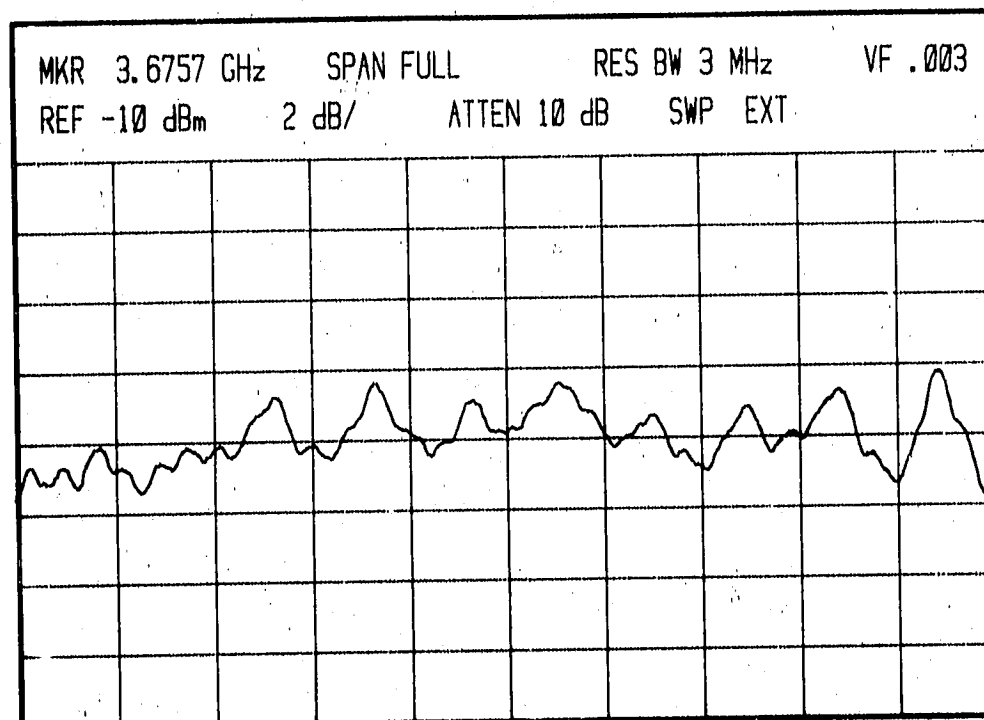

Figure 5-57. CRT Plot of Typical Frequency Response, 3.8 to 8.5 GHz
17. Center trace on center horizontal graticule line using REF LEVEL CAL screwdriver adjustment. Adjust A20R26 B3B for minimum slope of trace. Adjust A20R30 B3A counterclockwise so that right side of trace drops 2 dB. Readjust A20R26 B3B for minimum slope (see Figure 5-57). Using REF LEVEL CAL and REFERENCE LEVEL FINE, set best line at center horizontal graticule line. Do not readjust REF LEVEL CAL or REFERENCE LEVEL FINE in steps 19 through 32.